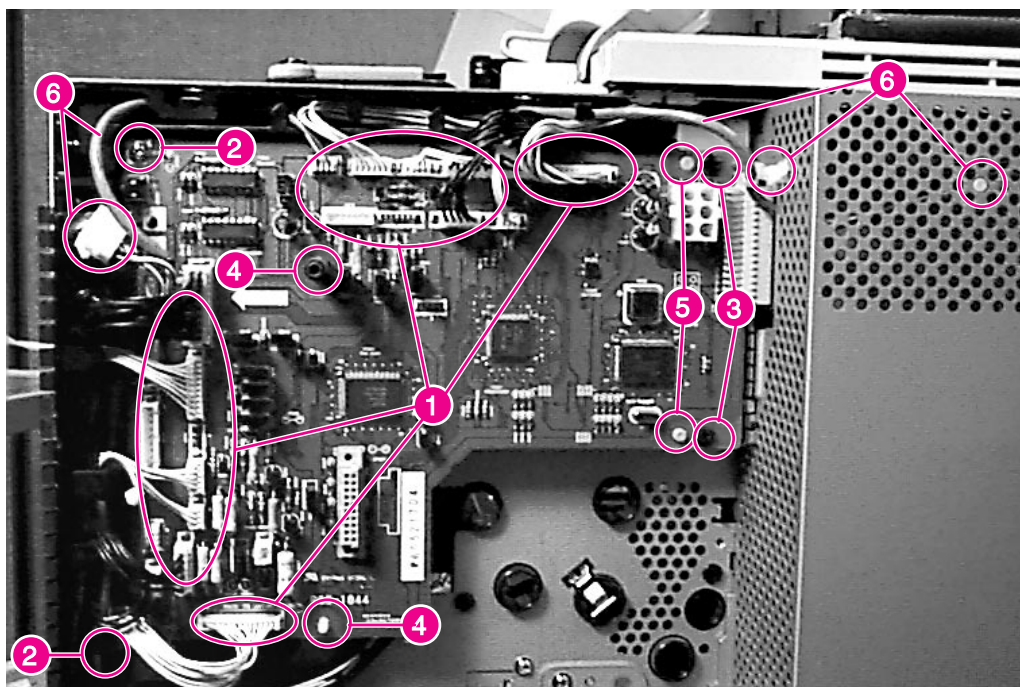

Figure 6-43 DC Controller PCA
- 4 Unplug 19 connectors from the PCA (figure 6-43, callout 1).
- 5 Remove 2 screws (figure 6-43, callout 2) from the left side of the PCA and 2 self-tapping screws (figure 6-43, callout 3) from the right side of the PCA.
- 6 Release two retaining clips (figure 6-43, callout 4) and carefully tip the left side of the PCA outward to clear the Formatter PCA connector from the card cage.
Make sure the retaining clip posts (figure 6-43, callout 4) and the two locator pins (figure 6-43, callout 5) are properly aligned.
- DC Controller PCA (see figure 6-43)